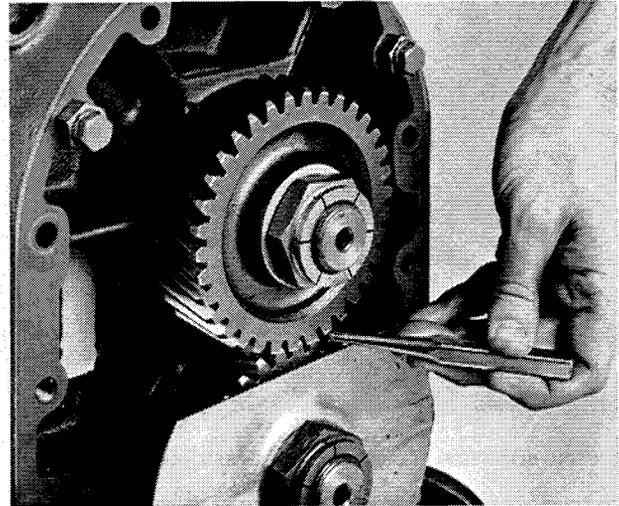

FIGURE 10
- h. If the timing gears appear to be reusable, it is advisable to make index marks on the gears to facilitate rotor timing upon reassembly. This can best be done by making small punch marks on the ends of meshing gear teeth with a pin punch and hammer (see Fig. 10).